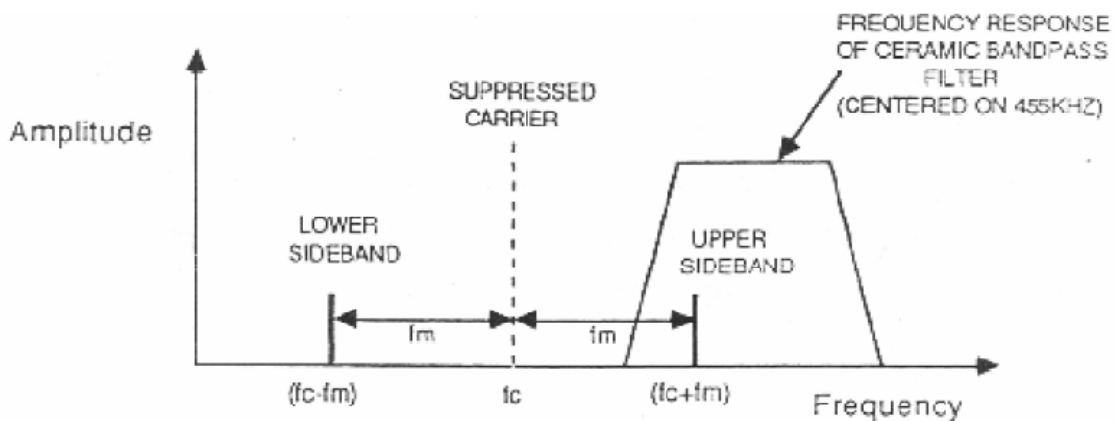

Figure 4: Frequency Response of Ceramic BPF
7. The DSBSC output from the balanced modulator block is next passed on to the ceramic filter block, whose purpose is to pass the upper sideband, but block the lower sideband. We will now investigate how this is achieved. First note that the ceramic band pass filter has a narrow pass band centered around 455 KHz. It was mentioned earlier that the frequency of the carrier input to the balanced modulator block has been arranged to be slightly less than 455 KHz. In fact, the carrier chosen so that, whatever the modulating frequency f_m , the upper sideband (at f_c+f_m) will fall inside the filter's pass band, while the lower sideband (at f_c-f_m) always falls outside. Consequently, the upper sideband will suffer little attenuation, while the lower sideband will be heavily attenuated to such an extent that it can be ignored. This is shown in the frequency spectrum in fig 4.
10. Note that there is some variation in the amplitude of the signal at the filter's output (t.p. 20) as the modulating frequency changes. This variation is due to the frequency response of the ceramic band pass filter, and is best explained by considering the spectrum of the filter's input signal at the MIN and MAX positions of the frequency pot, as shown in Fig. 4.